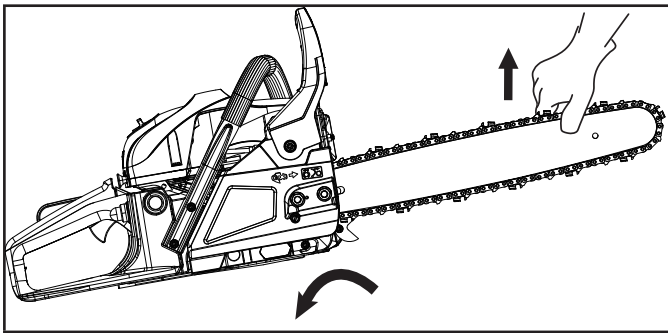

Figure 28
3. Wearing protective gloves, hold the guide bar tip up, grasp clutch cover and wiggle it loose (Fig. 28).